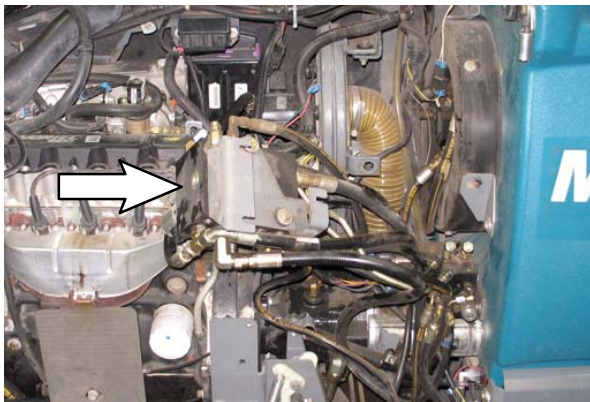

FIG. 7
- Lift the scrub valve assembly up from the hardware and away from the solution tank. (Fig. 7)